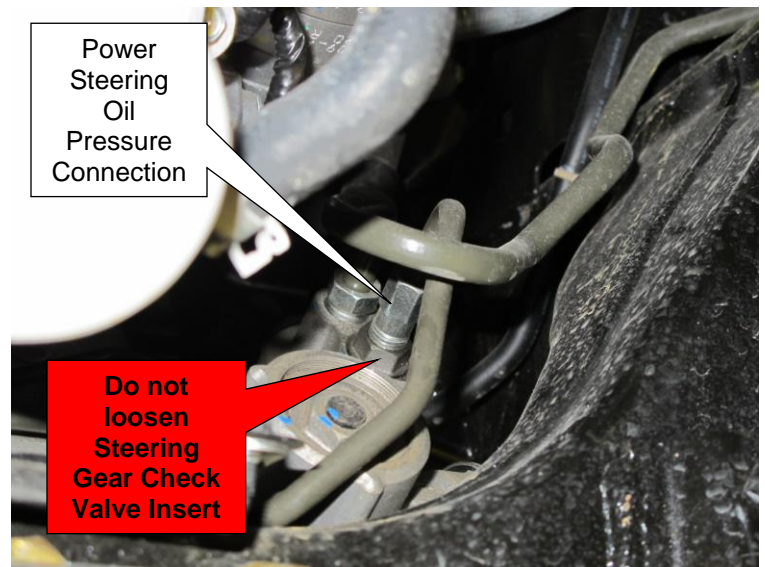

Figure 7
9. Locate the Steering Gear and Power Steering Oil Pressure connection (Figure 7).